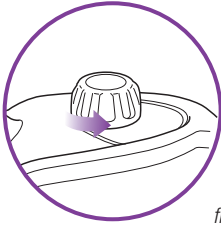

fig. 3
- 1 Turn the water tank cap counter clockwise and remove from the tank. **(fig. 3)**